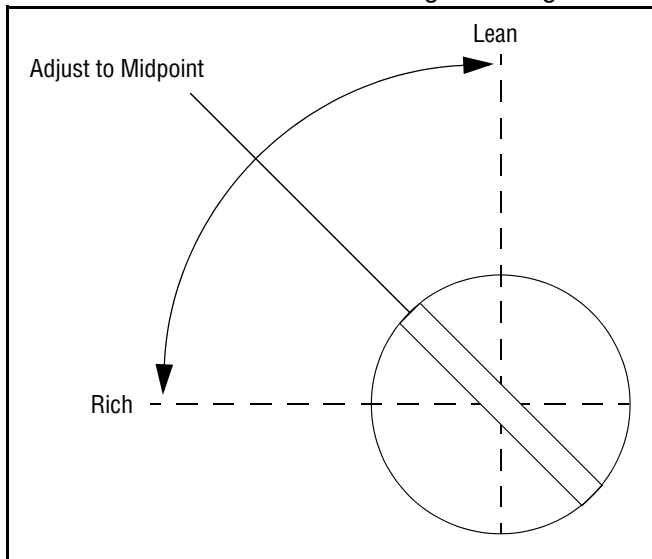

Figure 20
2. **Low Idle Fuel Needle Setting:** Place the throttle into the “idle” or “slow” position. Turn the low idle fuel adjusting needle out (counterclockwise) from the preliminary setting until engine speed decreases (rich). Note the position of the needle. Now turn the adjusting needle in (clockwise). The engine speed may increase, then it will decrease as the needle is turned in (lean). Note the position of the needle. Set the adjusting needle midway between the rich and lean settings. See Figure 20.